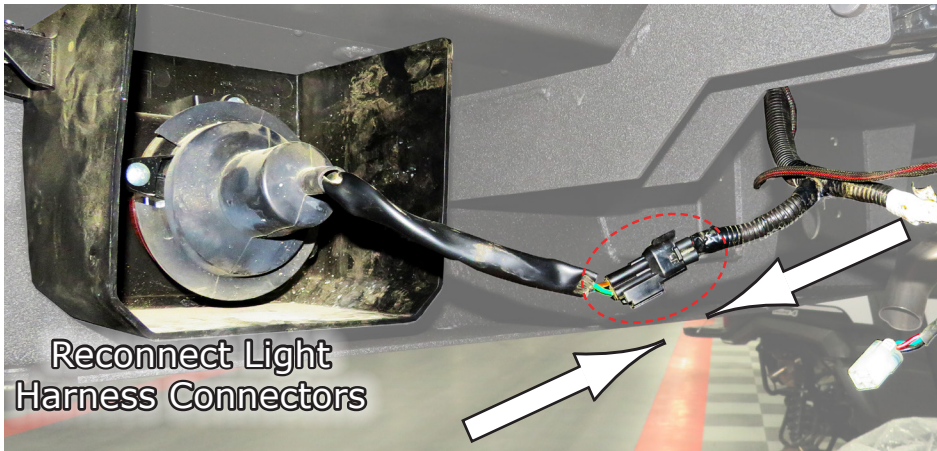

Fig.20
20.The next thing you need to do is hook-up or reconnect the **Tail Light Harness Connector** ends that you disconnected previously as shown in **Fig.20**. Repeat for the other tail light.